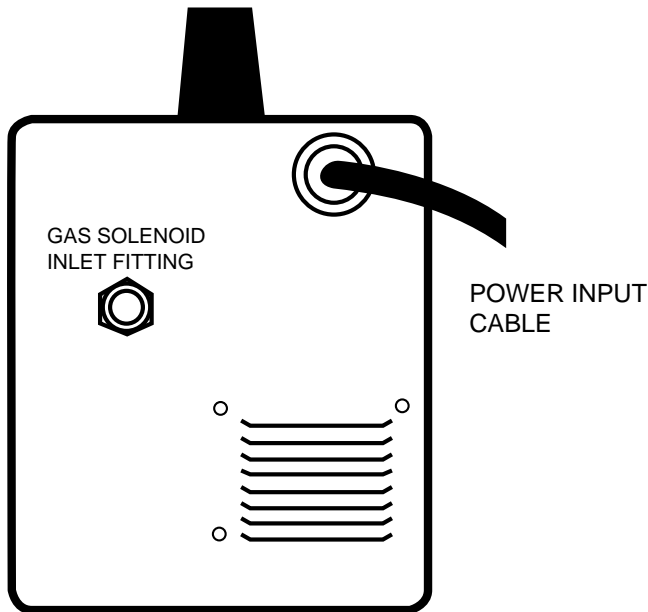

FIGURE A.6
4. Refer to Figure A.6. Attach one end of inlet gas hose to the outlet fitting of the flow regulator and tighten the union nut securely with a wrench. Connect the other end to the Pro-MIG 135 Gas Solenoid Inlet Fitting (5/8-18 female threads — for CGA — 032 fitting). Make certain the gas hose is not kinked or twisted.
Refer to Figure A.6.